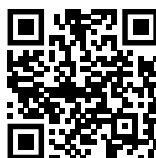

Fig. 101
- ▶ Aprire la Liebherr SmartMonitoring Dashboard. (vedere Fig. 101)